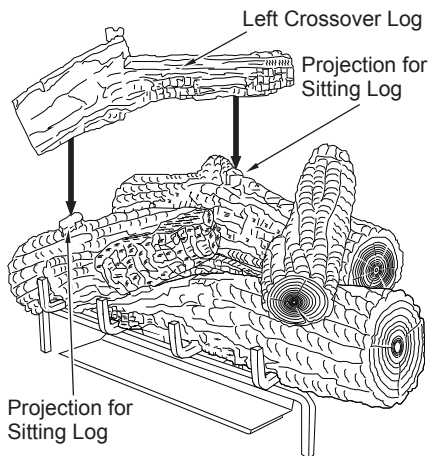

Figure 54 - Installing Left Crossover Log
- Place the left crossover log onto the rear log and the left front log as shown in Figure 54. The left crossover log has notches in the bottom that will line up with the projections on the rear log and the left front log.